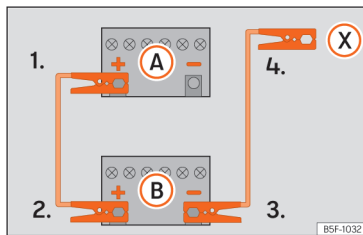
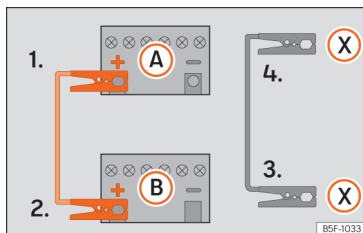

Fig. 152 Diagram of connections for vehicles without Start Stop system
Fig. 153 Diagram of connections for vehicles with Start Stop system
The jump leads should only be connected in the order **1 > 2 > 3 > 4** »» Fig. 153.
4. *Vehicles without a Start-Stop system:* connect one end of the *black* jump lead to the negative terminal (-) of the vehicle providing the current **B** »» Fig. 152. *Vehicles with a Start-stop system:* connect one end of the *black* jump lead (X) to a suitable ground terminal, to a solid piece of metal in the engine block, or to the engine block itself »» Fig. 153.
5. Connect the other end of the *black* jump lead (X) to a solid metal component bolted to the engine block or to the engine block itself of the vehicle with the flat battery. Do not connect it to a point near the battery **A**.